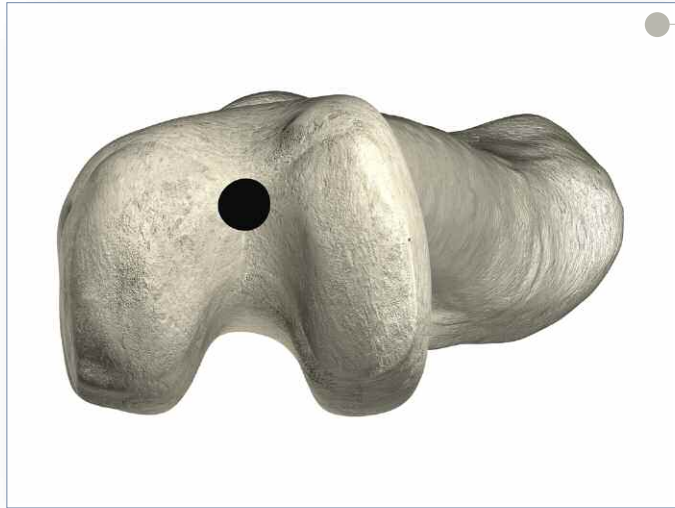

Figure 10
- ▶ Insert the Femoral Alignment Guide into the intramedullary hole (Figures 10 and 11).